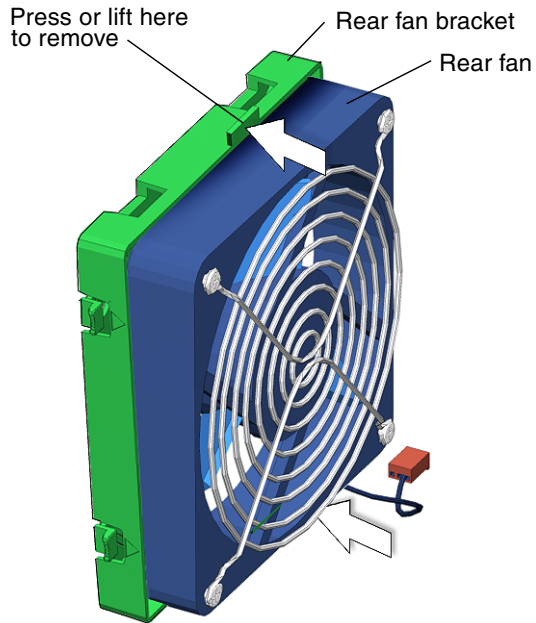

FIGURE 13-18 Releasing the Rear Fan
5. Remove the rear fan from the rear fan bracket (FIGURE 13-18).